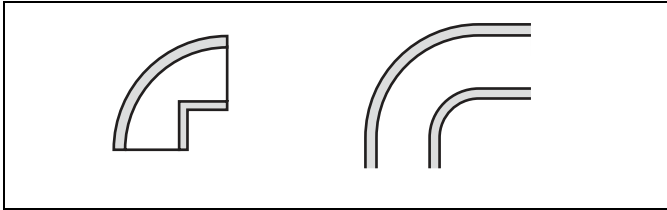

Fig. 31: Elbows, cast (left) and bent pipe (right)
- Max. one piece cast 90° elbow is allowed. Pipes with more than one 90° bends are allowed. See Fig. 31.